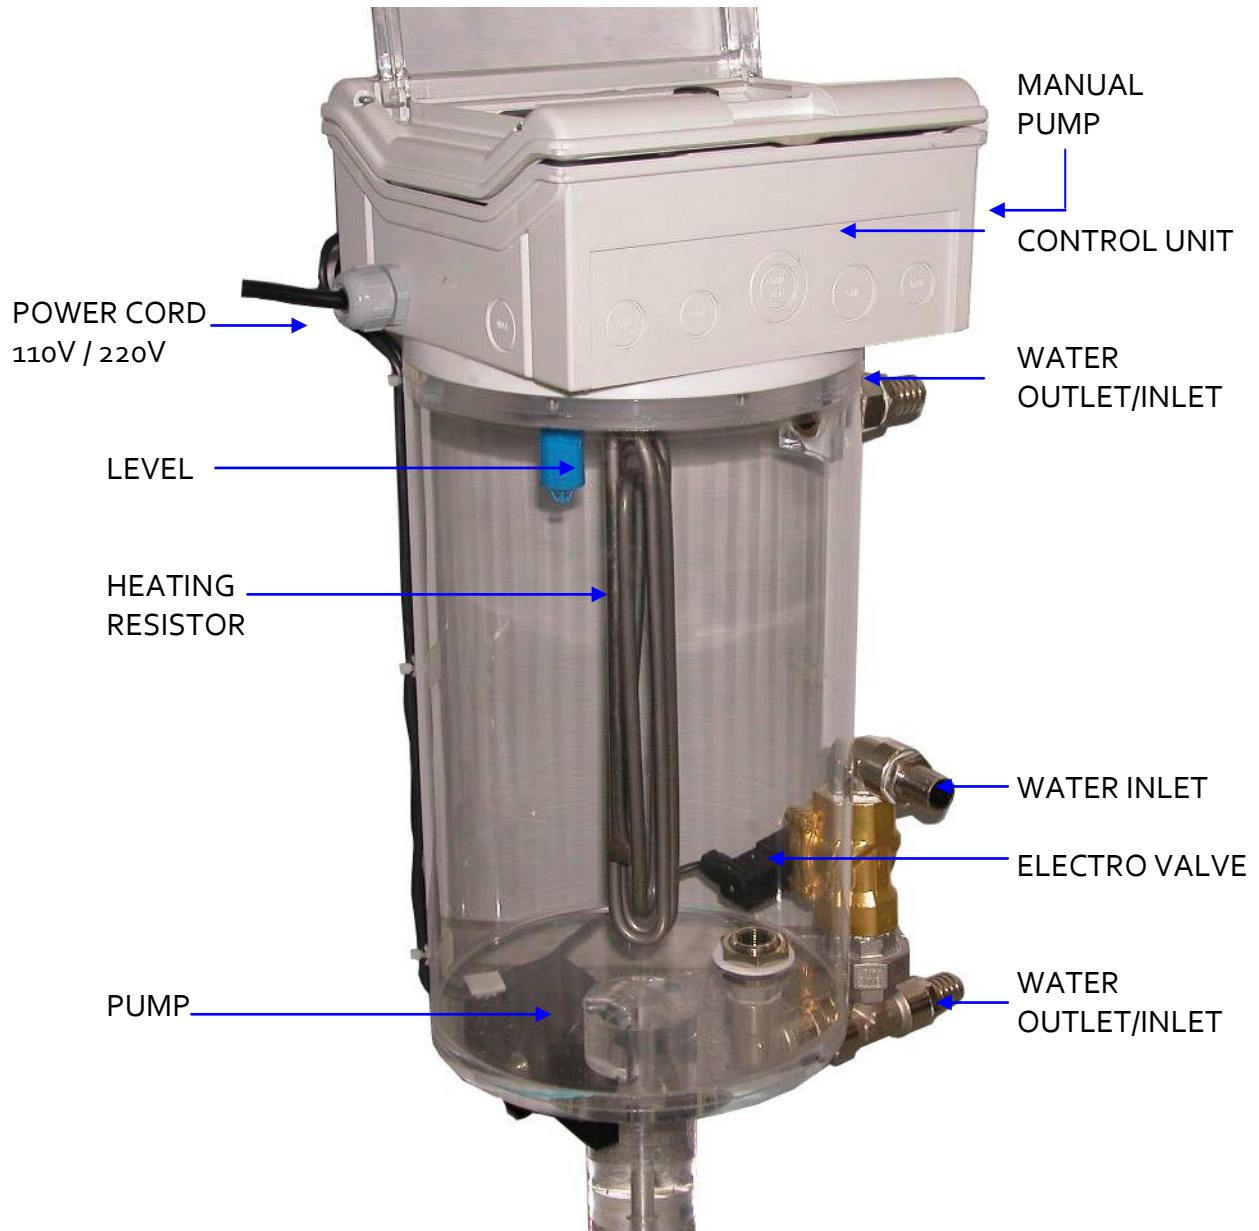

Figure 3. Heating tank.
- The inlets / outlets of the heating tank to the pool must never be closed while the heater is on (see Figure 3 to recognize these tubes).